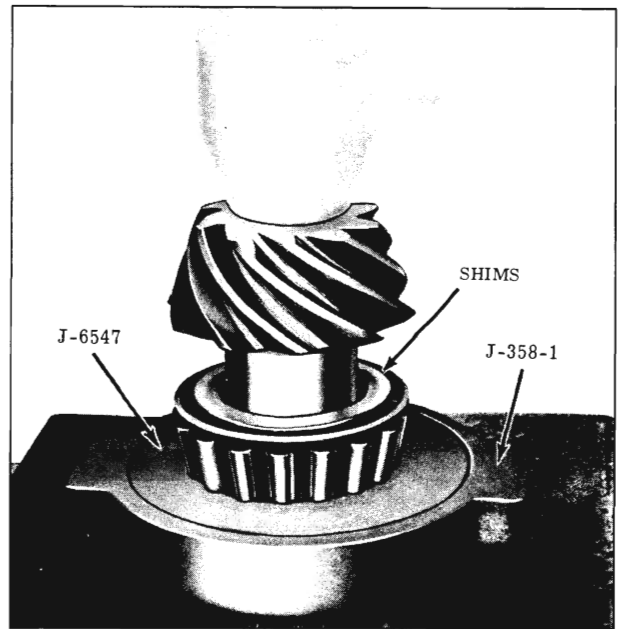

Fig. 6-31 Installing Bearing on Pinion Shaft
4. Lubricate the rear bearing roller assembly, then press the rear bearing inner race and roller assembly firmly in place against the shims on pinion shaft. (Fig. 6-31)